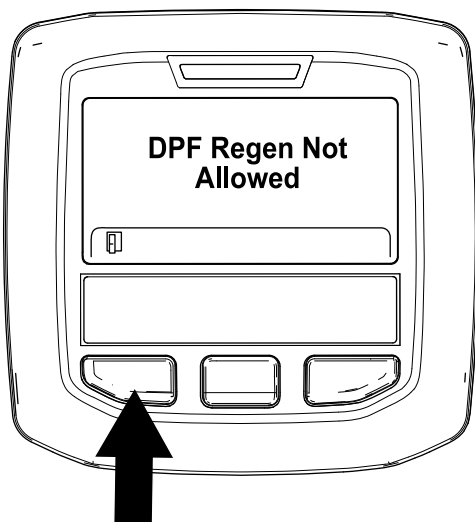

Figure 51
- If the regeneration process is not allowed by the engine computer, the "DPF Regen Not Allowed" message displays in the InfoCenter (Figure 51). Press the left button to exit to the home screen